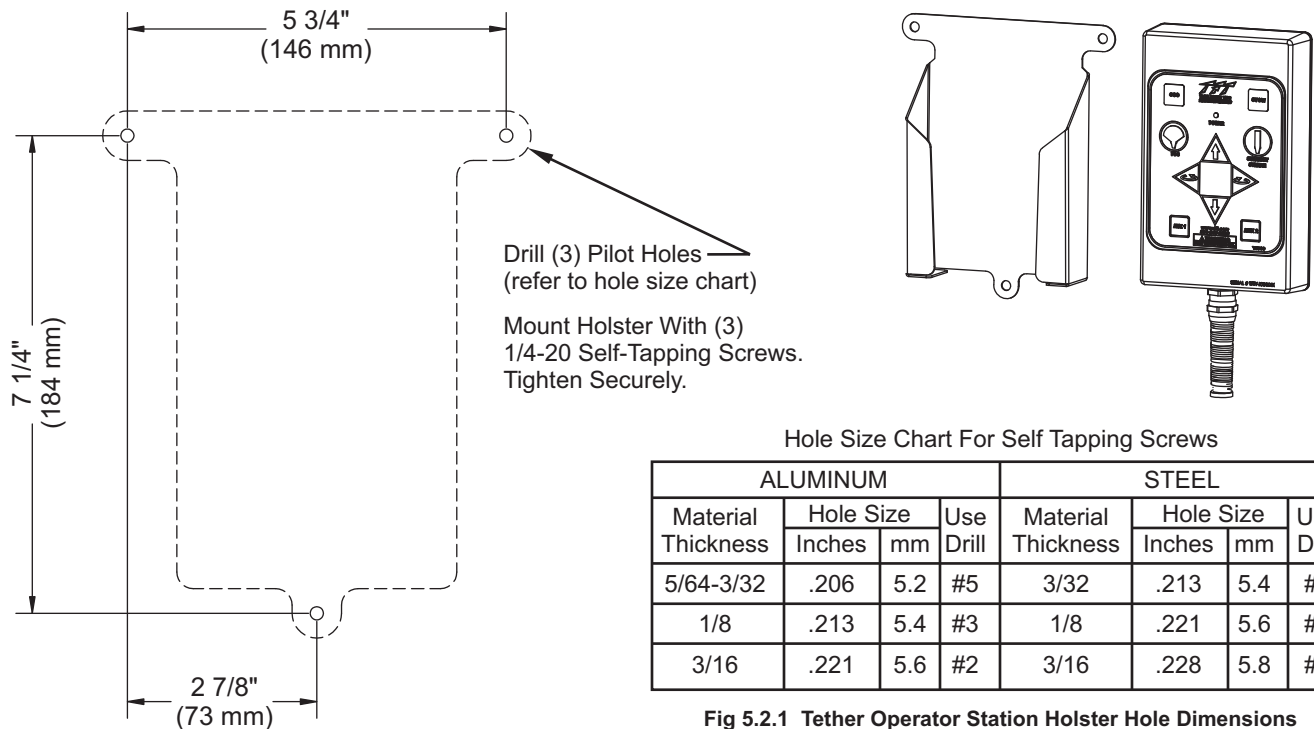

Fig 5.2.1 Tether Operator Station Holster Hole Dimensions
The holster is supplied with (3) 1/4-20 stainless steel self-tapping screws. Make sure the material beneath the bracket is substantial and thick enough to hold self-tapping screws. Make sure the area on the back side of the mounting surface is clear of obstructions. We recommend a minimum thickness of 3/32" (.093" - 2.4 mm) in aluminum and 5/64 (.078"-2mm) in steel. See the chart in Figure 5.2.1 to determine the correct pilot hole size.
Select proper location for mounting holster, preferably inside a storage compartment. Panel space required will be 6.5" x 8.0" (165 x 203mm). Refer to Figure 5.2.1 for hole dimensions. Holster can be used as template.